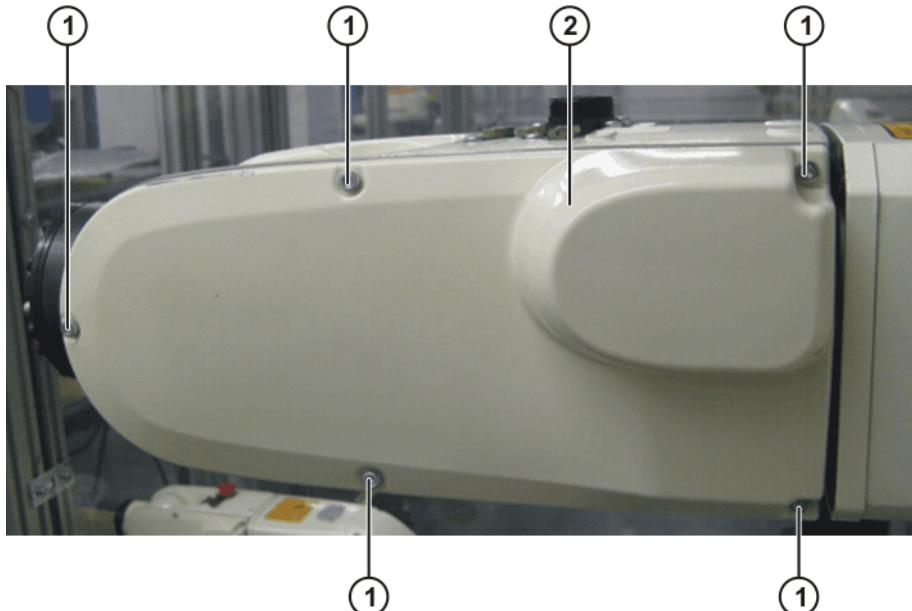

Fig. 10-8: Cover A6
1. Remove 5 screws (>>> Fig. 10-8) from the arm.
10. Mount the cover (>>> Fig. 10-8).